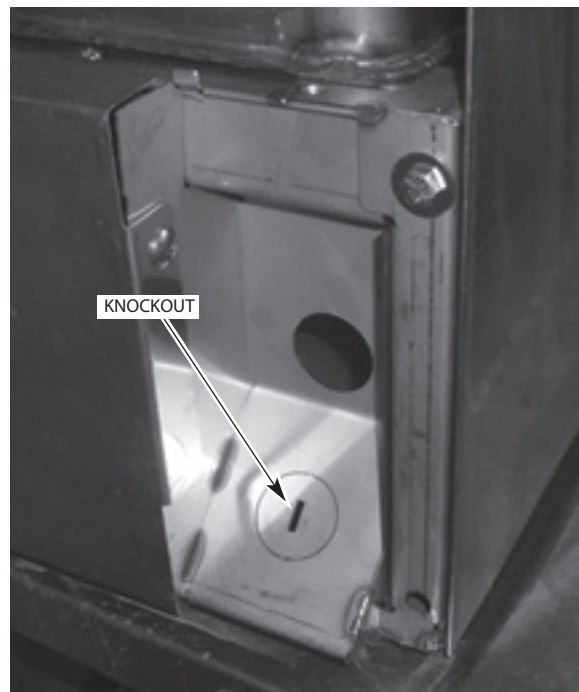

Fig. 3
3. A hole for 1" trade size conduit is supplied at the lower right in the back of the machine (Fig. 3). If necessary due to space requirements, remove the knockout and use a 45° fitting.